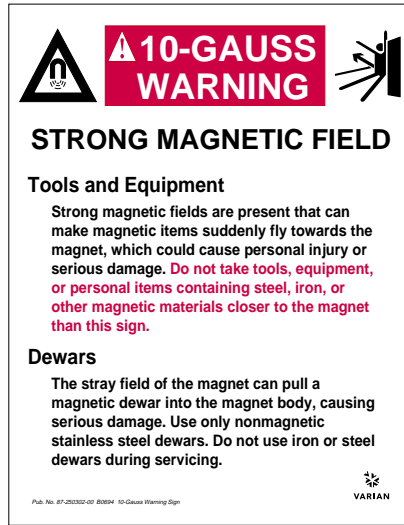

Figure 8. 10-Gauss Warning Sign
1. *10-gauss warning signs (Figure 8)* – Post along the 10-gauss perimeter of the magnet so that a sign can be easily seen by any person about to enter the 10-gauss field from any direction. Refer to the manuals supplied with the magnet for the size of a typical 10-gauss stray field. Check this gauss level after the magnet is installed.